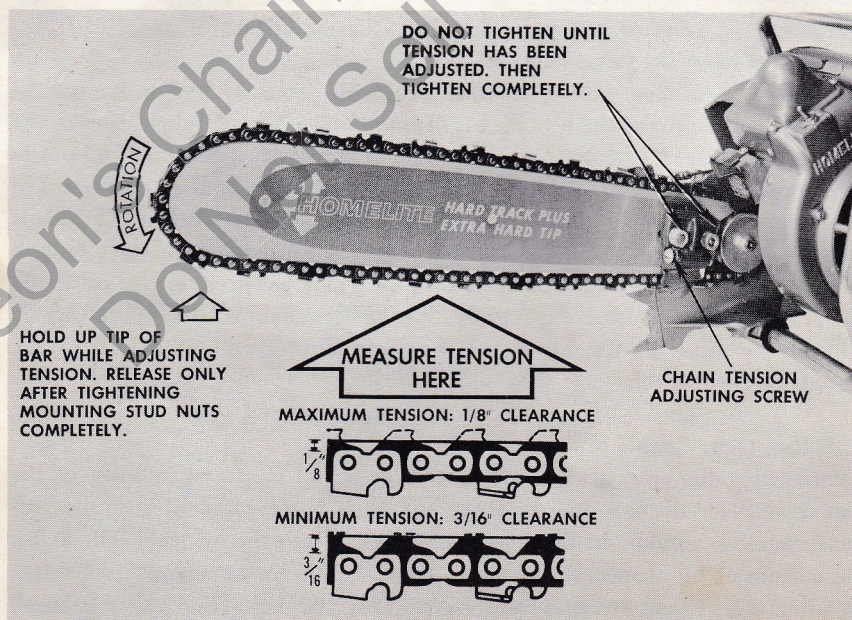

Figure 2 — Assembling Guide Bar and Chain
##### b. Assembling the Unit (See Figure 2)
(1) Remove the guide bar and the chain from their cartons. The grease-like coating on the new chain is a rust preventative, not a lubricant. We, accordingly, recommend soaking the chain in oil before use.
(2) Remove the mounting stud nuts and lockwashers and take the chain tension device and the *outer* guide bar plate off the studs. (See Figure 2.) LEAVE THE INNER GUIDE BAR PLATE ON THE STUDS. Now mount the guide bar on the studs, and put the *outer* guide bar plate and the tension device back on the studs . . . hold with the fingers and slide bar back and forth until the pin of the chain tension device drops into the hole in the guide bar. Then
(3) Be sure the chain and the sprocket are of matching pitch. The chain must be assembled with its teeth facing in the direction of rotation. (See Figure 2.) Slip the chain over the drive sprocket and feed the chain into the chain groove in the guide bar.